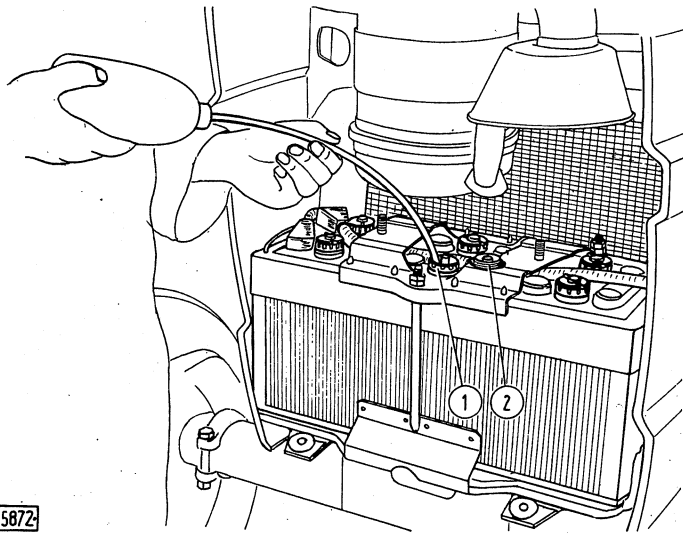

Fig. 11 - Checking the battery electrolyte level.
The 12 V battery, which is installed on the axle support, in front of the radiator (Fig. 11), has the following features: the cell connecting bridges are immersed in the rubber cement to improve outside insulation and to reduce post and terminal oxidation, and also, the cells are provided with splash-proof and self-levelling plugs.
The electrolyte level should be checked after every 200 hours of work with battery rested and cool. Make sure that plugs (1, Fig. 11) are tight and then remove the cover (2) and pour some distilled water down the funnel of each plug until the water starts rising up in the funnel.